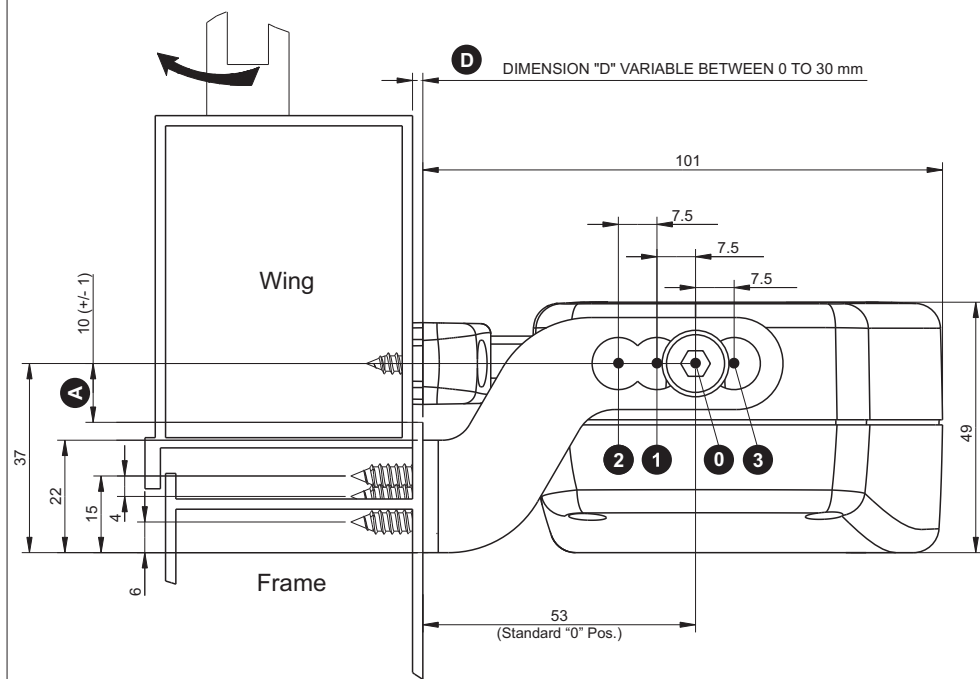

Fig.6b
VERIFY THAT THE DISTANCE "D" BETWEEN THE WINDOW FRAME (ON WHICH THE FIXING OF THE ACTUATOR IS FORESEEN) AND THE WINDOW FRAME WING (ON WHICH THE BRACKET FIXING IS FORESEEN) IS INCLUDED WITHIN 0 mm AND 30 mm, FOR THE TOP HUNG ASSEMBLY (SEE FIG.6a), AND WITHIN 0 mm AND 22 mm FOR THE BOTTOM HUNG ASSEMBLY (SEE FIG.6b).
- 5) **Fig.29-** Align the bottom hung bracket with the centre line of the window using as reference the central hole of the fastening screws and position the bottom hung bracket at **E** (**see Fig.6b**), then mark the drilling points;
- 7) **Fig.32-** Tighten with the two standard supplied screws (**Ref.1**) the actuator on the bracket connecting it to the window frame in the position "0" (**see Fig.6b**) and unscrew the chain adjustment end screw;
- 8) **Fig.33-** Select the position of the actuator with reference to the bracket connecting it to the window frame (**see Fig.6b**) and connect the chain end to the bottom hung bracket;